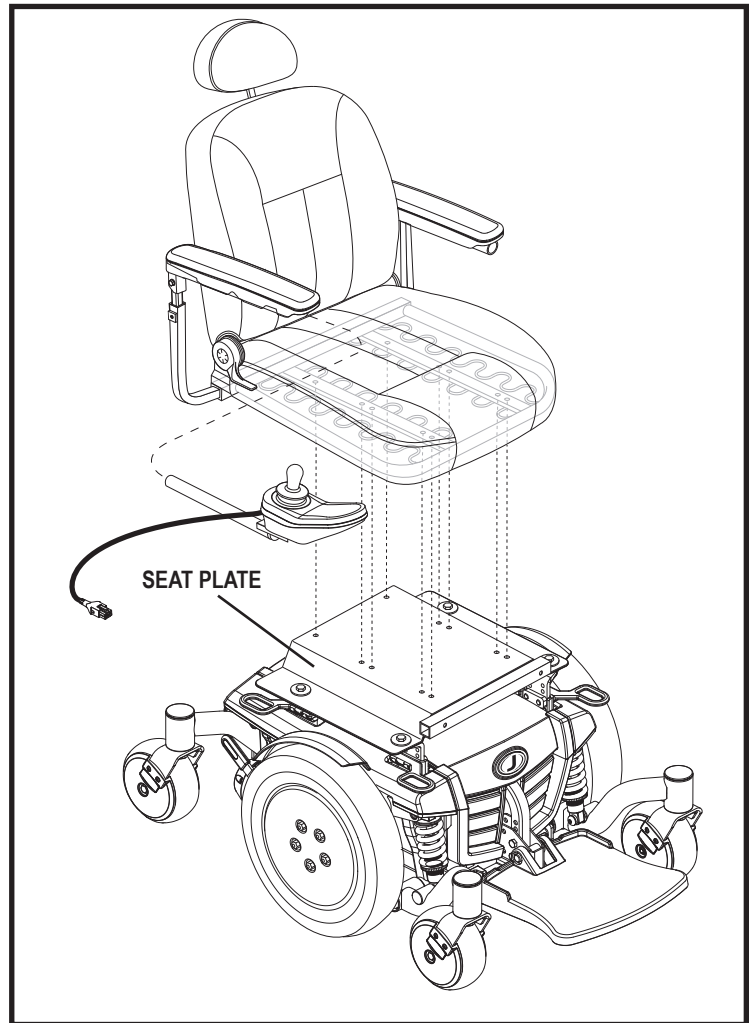

Figure 10. Seat Installation–UK Occupied Transit Securement System
For United Kingdom occupied transit power chairs, the seat is secured to the power base with hardware that attaches the seat plate to the four seat interface mounting brackets. The seat plate is located on the bottom of the seat. See figure 10.
1. Attach the seat plate to the power base and ensure all hardware is properly installed and securely tightened. See figure 10.